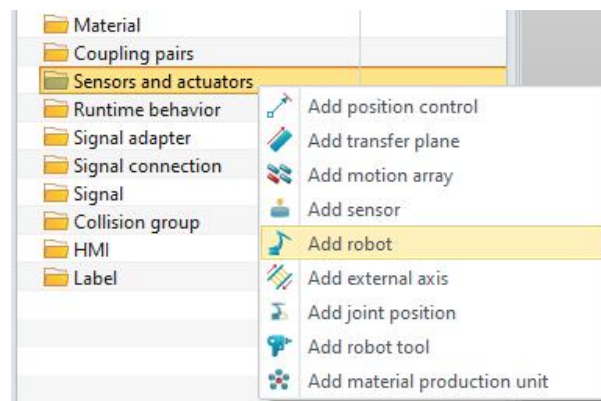

Figure 8-19: Add Robot
- In the "Mechatronic" window, click "Sensors and actuators", right-click and select "Add Robot". (Figure 8-19)